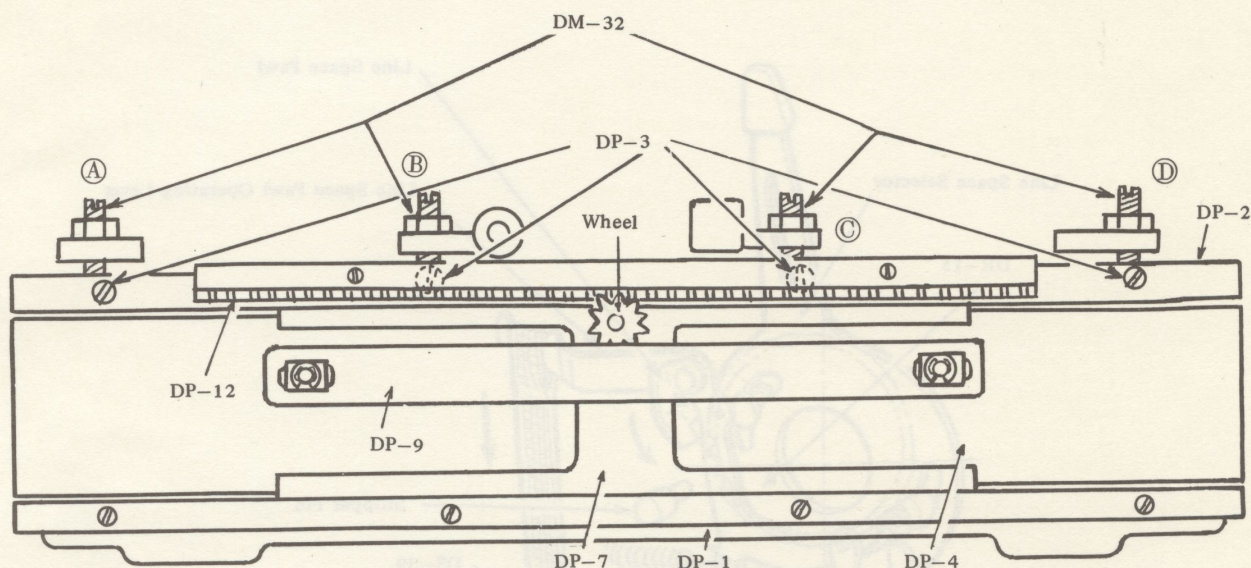

Fig. 77
- (7) Adjust the position of DP-2 (Carriage Rail: rear) with changing by DM-32 (Screw) so that DP-4 (Carriage Unit) moves smoothly between DP-1 (Carriage Rail: front) and DP-2 and the maximum play between DP-1, DP-2 and DP-4 is less than 0.3 mm. (Fig. 77)
- a) Remove DP-12 (Retainer Rack: rear) and loosen 4 each of DP-3 (Screw). (Fig. 77)
- b) Adjust play of DP-4 by Screw A with shifting DP-4 to the left direction until DP-8 (Roller Bearing) between DP-4 and DP-1, DP-2 is positioned a little to the right side of A of DM-32, and adjust Screw C also as it is. (Fig. 77)
- c) With shifting DP-4 to the right direction until 8 pieces of DP-8 located right side of DP-4 come a little to the left of Screw D, adjust play of DP-4 by Screw D and adjust also Screw B as it is. (Fig. 77)
- d) With moving DP-4 in the full extent, make sure smooth movement of DP-4 and play of DP-4 is less than 0.3 mm at any place. (Fig. 77)
- e) Secure DP-2 by DP-3. (Fig. 77)
- f) When DP-4 is located at the center, DP-7 (Carriage Retainer) should also be placed about the center portion. (Fig. 77)
- Too deep engagement between DP-12 and Wheel may result smoothless movement of DP-4, on the contrary insufficient engagement may result sideslip of DP-7 during operation. (Fig. 77)